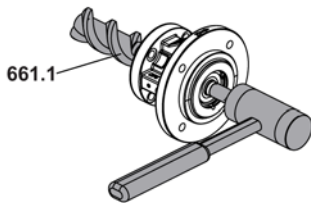

Fig. 21
4. Drive the main screw 661.1 out of the ball bearing 817 with light blows from a plastic hammer, see Fig. 21.